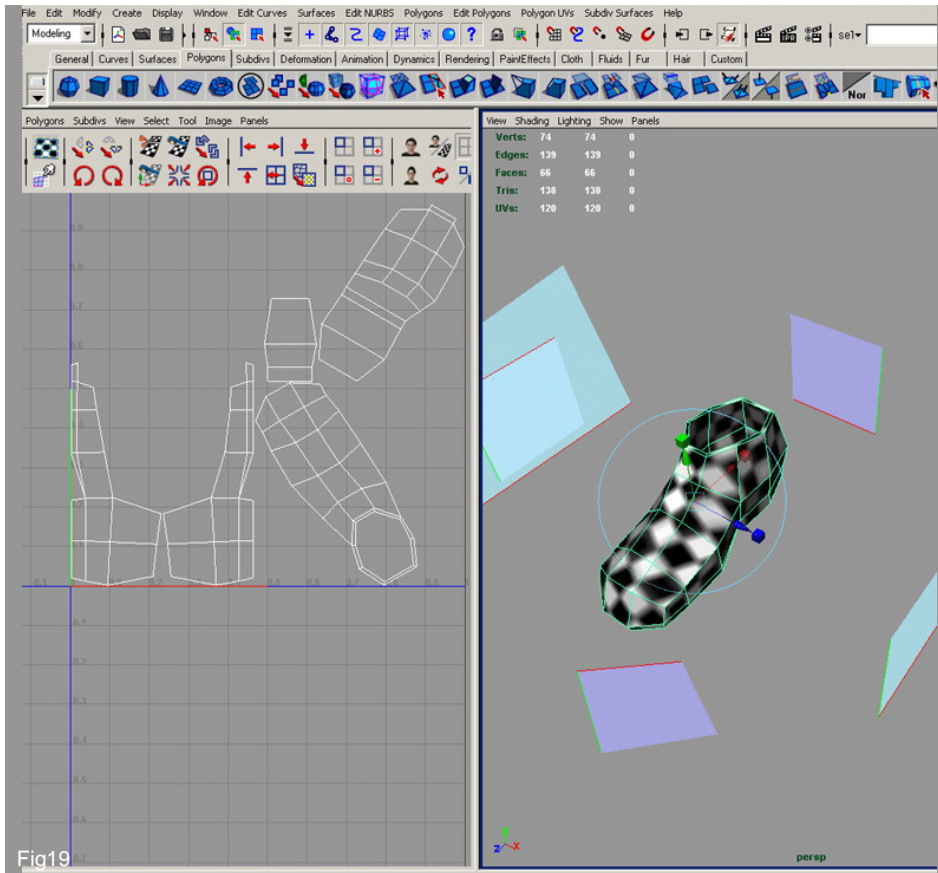

Fig19
19. Regarding the foot use “Automatic Mapping”. This is very often a very time expensive method but for our foot this is much simpler because we don't have so many parts to sew. (Fig19).